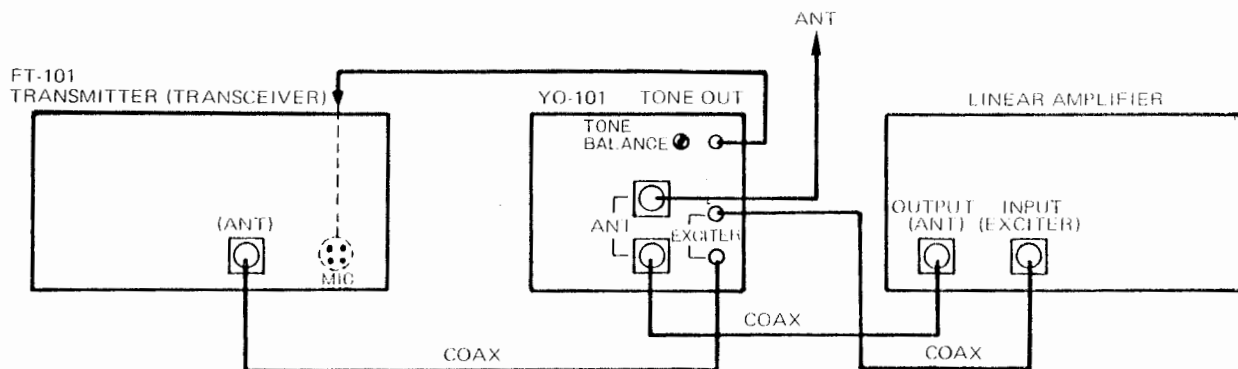

Figure 5
Set up the Monitoroscope and transmitting equipment as illustrated in Figure 5, for the purpose of testing the linearity of the RF amplifier. The patterns from this test are called trapezoid patterns. Place the SWEEP FREQ Hz switch in the TRAP position.
- (1) Connect a coaxial cable from the output of the exciter to one of the connectors marked EXCITER and connect the other connector to the input of the linear amplifier under test with a coaxial cable as illustrated in Figure 5.
- (2) Connect a coaxial cable from the RF output connector of the amplifier to one of the ANT connectors on the Monitoroscope. Connect the dummy load or antenna to the other ANT connector.
- (3) Connect a shielded patch cable from the TONE OUT jack of the Monitoroscope to the microphone input of the exciter.
- (4) Turn on the power switch of the Monitoroscope, and adjust the controls as described in previous sections.
- (5) Set the SWEEP FREQ switch to the TRAP position, and push the 1500 Hz and 1900 Hz buttons.
- (6) Turn on the exciter and linear amplifier and adjusted the switch and H. GAIN control of the Monitoroscope for the desired pattern display.
- (7) Refer to the patterns on page II for evaluation of the linearity of the amplifier under test.